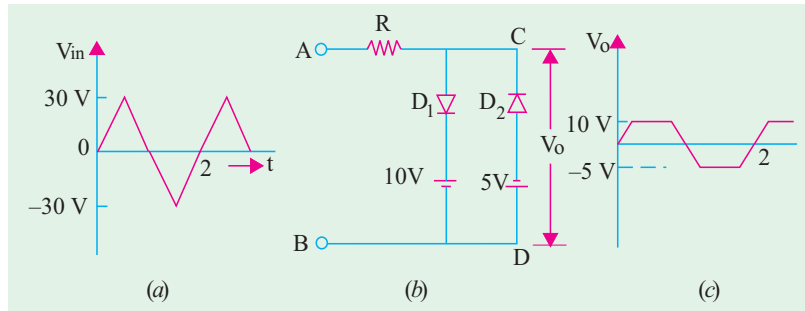

Fig. 52.36
**Example. 52.22.** The triangular voltage of Fig. 52.36 (a) is applied to the biased parallel clipper circuit of Fig 52.36 (b). Find the wave-shape of the output voltage.
**Solution.** During the positive half-cycle,  $D_1$  would conduct but  $D_2$  will act as an open-circuit. However, value of  $V_0$  cannot exceed 10V because points C and D are electrically connected across the 10 V battery since  $D_1$  is shorted. Hence, signal voltage above 10 V level would be clipped off as shown in Fig. 52.36 (c).
During the negative half-cycle,  $D_1$  is open but  $D_2$  conducts. Again,  $V_0$  cannot exceed 5 V since it is the voltage across points C and D whose value is fixed by the battery connected in that branch. Hence, signal voltage beyond 5 V is clipped off. The wave-shape of  $V_0$  is as shown in Fig. 52.36 (c).
The wave-shape of  $V_0$  is as shown in Fig. 52.36 (c).